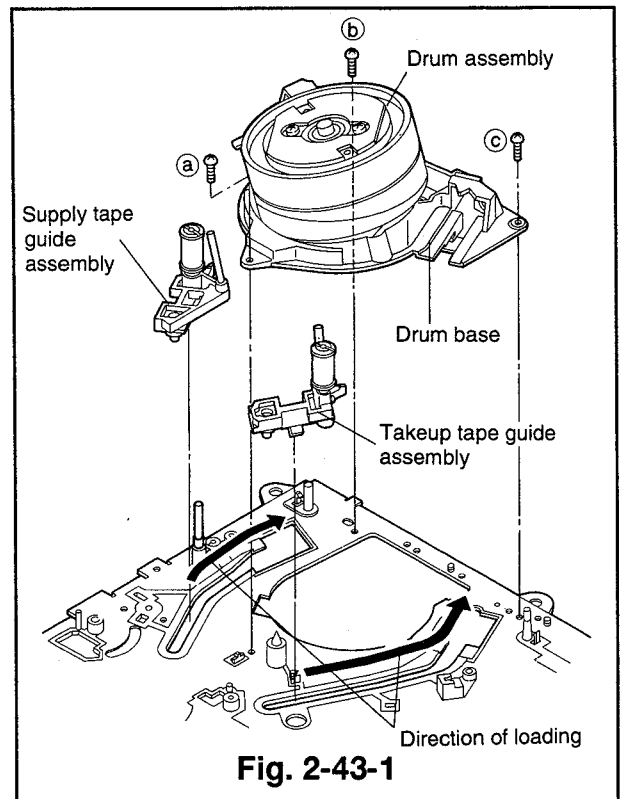
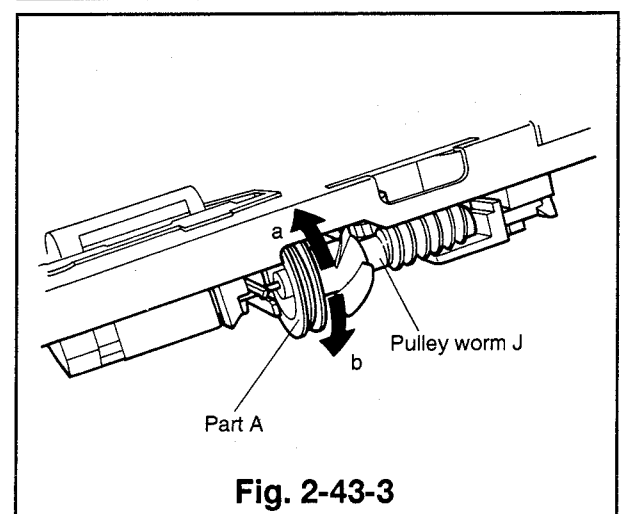
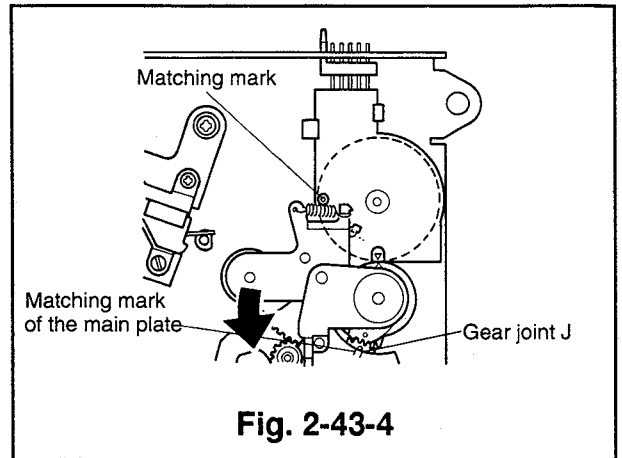

Fig. 2-43-1
Fig. 2-43-3
Fig. 2-43-4
- ① Remove the cassette housing. (Refer to Para. 2-1 for the removal method.)
- ② Remove the PCB-HEAD-AMP. (Refer to Para. 2-8 for the removal method.)
- ③ Remove the cleaning assembly. (Refer to item ④ of Para. 2-42 for the removal method.)
- ④ Unscrew the three screws (a, b and c) to remove the drum base together with the drum assembly. (Refer to Fig. 2-43-1.)
- ⑤ Slide the supply and takeup tape guide assemblies to the end of the loaded position by either of the following methods.
- Supply voltage (approximately 5V plus voltage on the red wire) to the loading motor as in ② of the removal method in Para. 2-19.
- Turn part A of pulley worm J by hand, in the direction shown by the arrow (a) as shown in Fig. 2-43-3. Raise the supply and takeup tape guide assemblies upward to remove them.
- ② Install the supply and takeup tape guide assemblies so that they respectively enter the holes at the ends of the loading arms (SP and TU) attached to the reverse side of the deck as shown in Fig. 2-43-1.
- ③ Slide the supply and takeup tape guide assemblies to the unloaded position, by either of the following methods so that the upper hole of the mode switch aligns with that of the cogwheel as shown in Fig. 2-43-4.
- Supply voltage (approximately 5V), reversing the polarity used in ④ of the removal method, to the loading motor as ⑤ of the installation method in Para. 2-19.
- Turn part A of the pulley worm J by hand, in the direction shown by the arrow (b) as shown in Fig. 2-43-3.
- ⑤ Install the drum base on which the drum assembly is attached and secure it with the three screws (a, b and c) as shown in Fig. 2-43-1. (Tighten the screws in the order a → b → c.)
- ⑥ Install the cleaning assembly. (Refer to Item ③ of Para. 2-42 for the installation method.)
- ⑦ Install the PCB-HEAD-AMP. (Refer to Para. 2-8 for the installation method.)
- ⑧ Install the cassette housing. (Refer to Para. 2-1 for the installation method.)